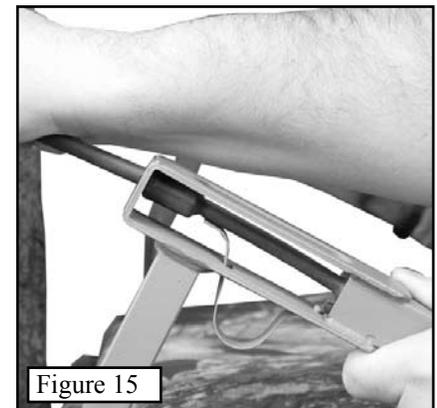

Figure 15
Step 3. Pull the cable towards the back of the tree and “seat” the cable stop against the back of the bracket, as shown in *Figure 15*. The QuickDraw cable spring will “lock” into place behind one of the cable stops.